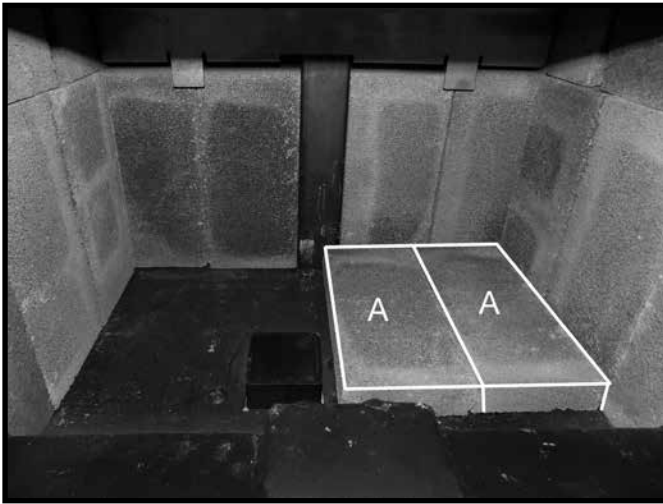

Figure 24. First two floor bricks in place.
- Place two "A" firebricks on the firebox floor as shown in Figure 24. on page 16
- Place 4 "A" firebricks on the firebox in the same direction as the bricks in Figure 24 . Push bricks to the back of the firebox.